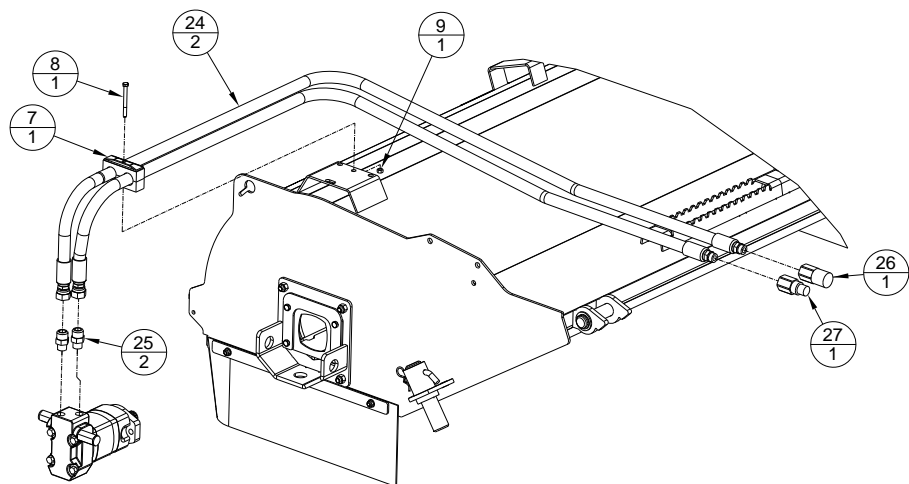

Figure 4.
- Remove the lead hoses (Item #24, see Figure 4) from the hose clamp (Item #7).